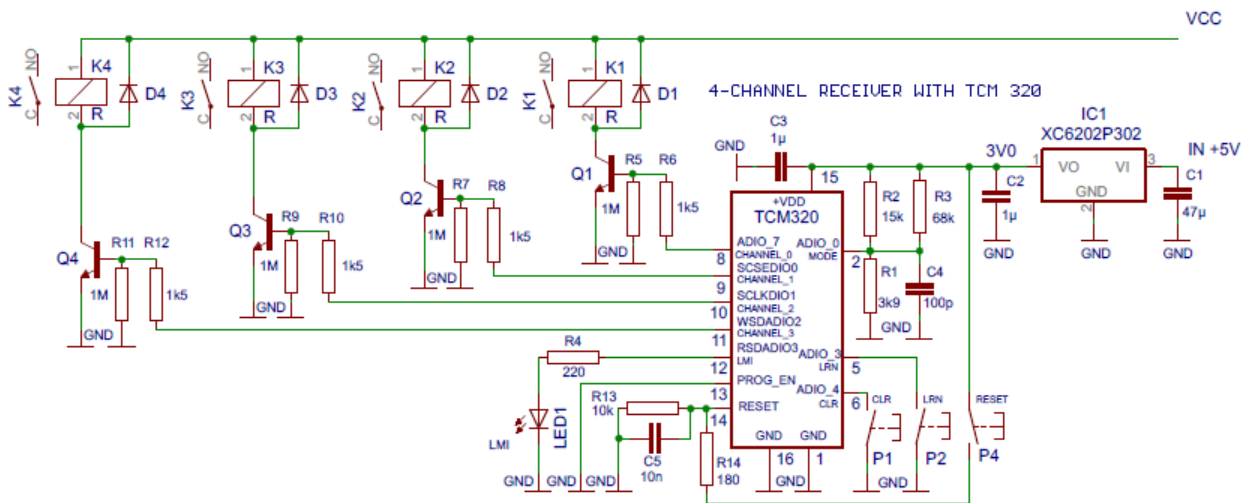

Fig.1: 4 channel actuator circuit diagram example (TCM320, Mode 3, switch actuator).
a. Actuator: in opposite to the RCMxxx modules (open collector outputs up to 35 V, 100 mA, which can directly drive relays), the TCM 3x0(C) have digital outputs. Due to its lower supply voltage i.e. 2.6 to 3.3 V for the TCM 320(C) and lower output current drive capability (max. 2 mA @ 3 V) external output drivers for actuators like relays may be required, as shown Fig. 1.